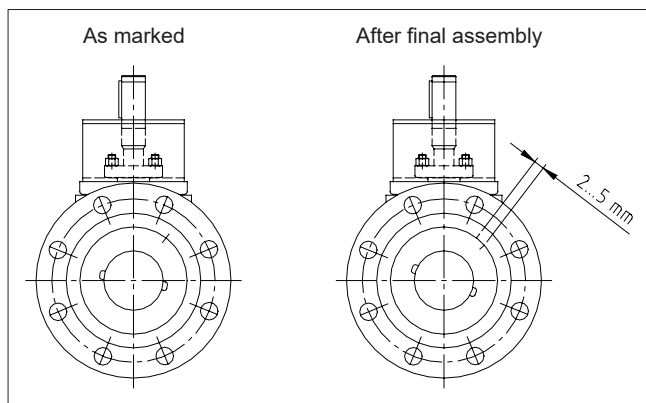

Fig. 28 Marking for the insert position
- Screw the insert (2) into the body (1). Tighten the insert slightly to ensure that it has gone all the way in. Mark the position, e.g. with a felt tip marker against the body at the point of the mark on the insert, Figure 28. Unscrew the insert and remove it from the body.